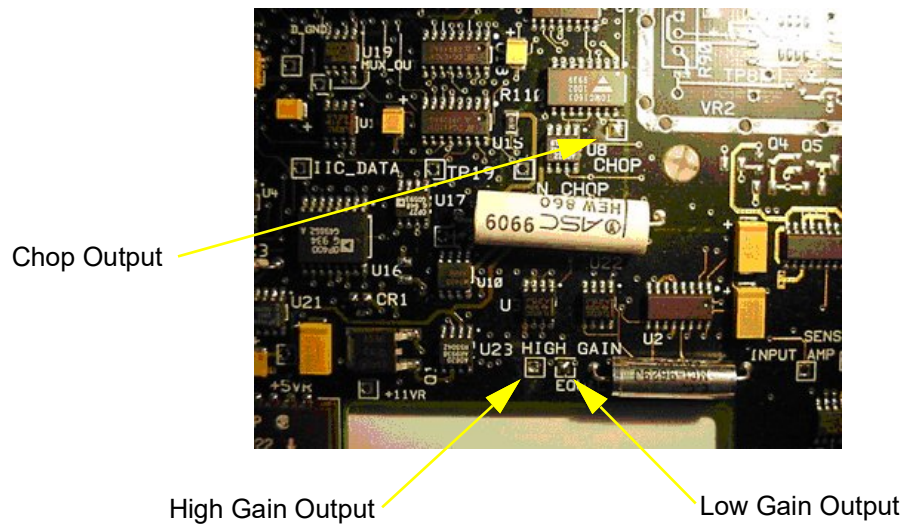

Figure A-9 Location to solder each wire
- 9 The Measurement PCB (A6) must now be modified. The call outs in Figure A-9 show where the three wires need to be soldered. Solder a wire into each hole (Chop, Low Gain, and High Gain Outputs). Take care not to over heat the PCB, as this may damage the trace.